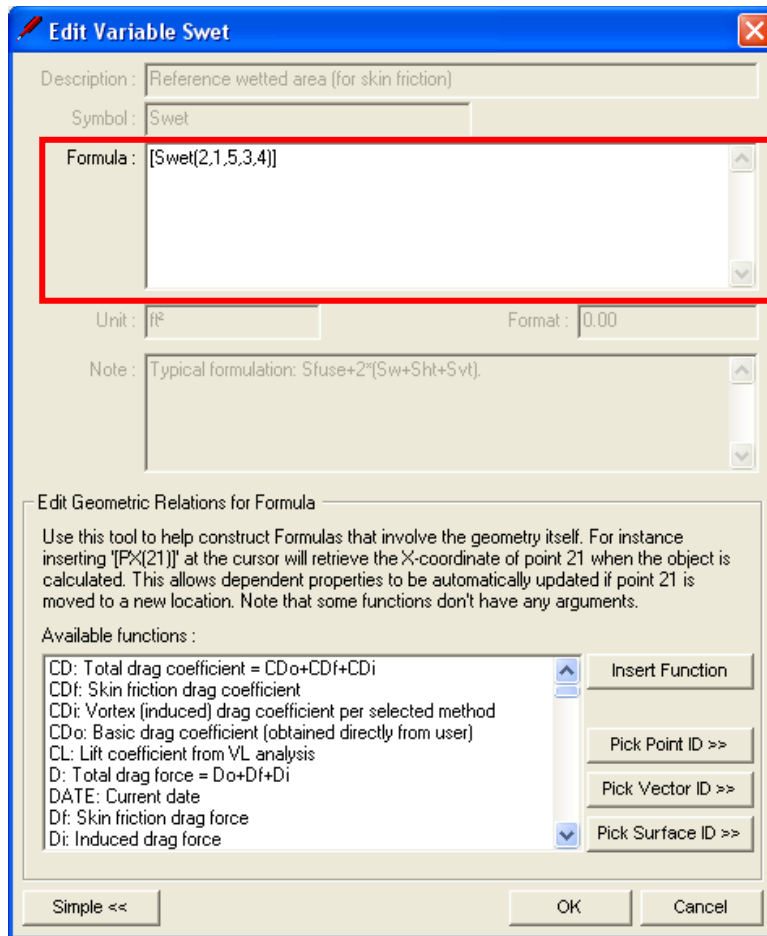

**Figure 9-13: Entering transition information for the wing root in Step 9.13.**
STEP 9.13 Select **Tools->Distribute Laminar Transition for Selected Vectors...** from the worksheet. Enter the information shown in Figure 9-13.